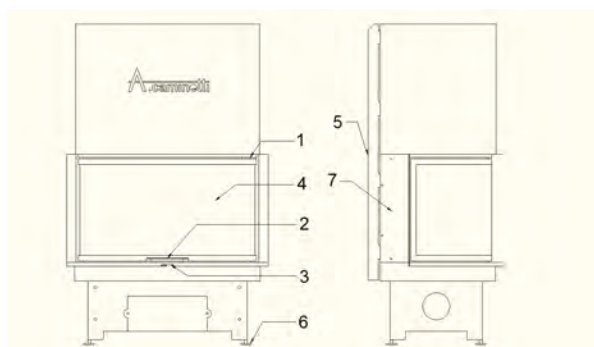
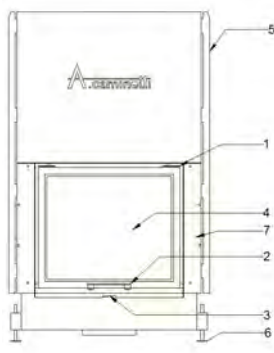

FIG. 5A
FIG. 5B
- liftdoor system (fig. 5a) (fig. 5b)